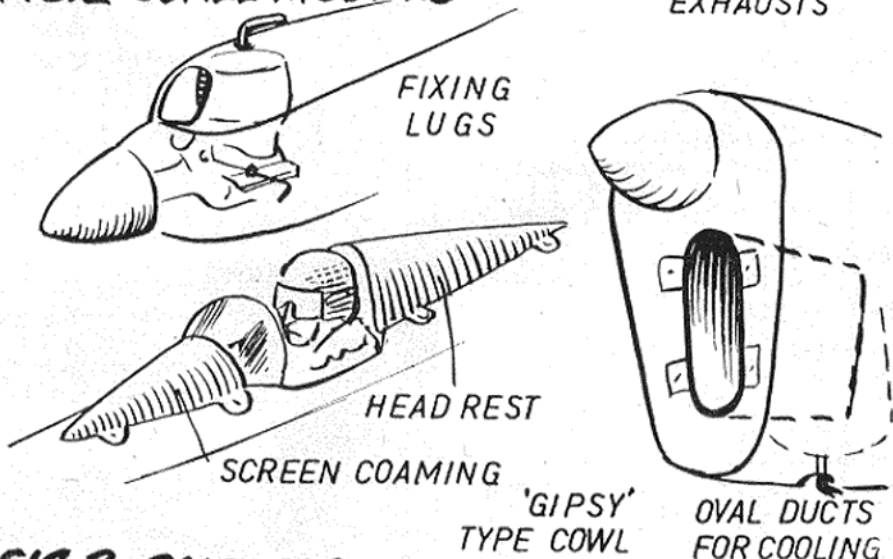

FIG.3 FAIRINGS
4. Both for the coming $\frac{1}{4}$ A team racers and the smaller scale models attractive fairings can be fashioned which fit snugly round the 0.5 c.c. baby engines. (Fig. 3.)